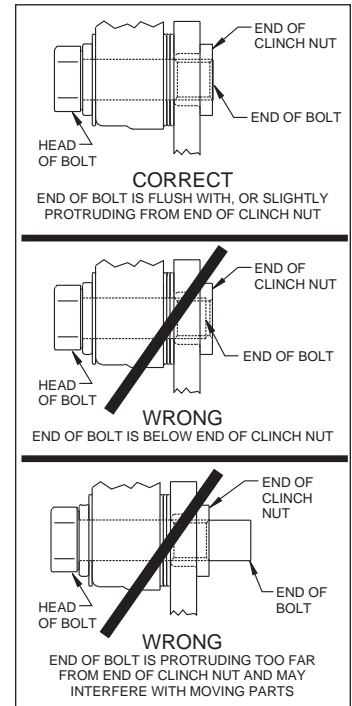

Figure 3. Clinch Nut Engagement Diagram
**Assembly Instructions** (numbers in parenthesis refer to the parts list, on the preceding page and Figure 1): **CAUTION:** All mounting bolts must fully engage clinch nuts. Be sure to check that all bolts are either flush or protruding through flanged side of clinch nut after shimming, Figure 3.
- Pack the small outer bearing cone (9) with high temperature disc brake bearing grease and install into hub (7). Slide the hub/rotor onto the spindle. Slide spindle spacer (10) onto the spindle and into the hub, Photo 4. Secure using spindle washer (11) and OEM spindle nut. Adjust bearings by tightening the wheel bearing nut to 60 **in-lbs.** while turning the hub/rotor assembly. Back off the adjusting nut one slot and install a new cotter pin (not supplied). **The resulting adjustment should be zero (no pre-load to 0.003 inch end play).**
- Install the o-ring (12) onto the dust cap (13). Press the dust cap into the hub (7).
- **NOTE:** Please reference the caution statement at the beginning of the assembly instructions. Mount the caliper (14) onto the caliper mounting bracket (1) using bolts (16) and washers (15), as shown in Figure 1. Initially place two .035" thick shims (17) on each bolt between the caliper and the bracket, Photo 5. Temporarily tighten the mounting bolts and view the rotor (7) through the top opening of the caliper. The rotor should be centered in the caliper, Photo 6. If not, adjust by adding or subtracting shims between the bracket and the caliper. Always use the same amount of shims on each of the two mounting bolts. **NOTE:** The end of each bolt must be flush with or slightly protruding from the head of the clinch nut, as shown in Figure 3. If necessary place spare shims between washer (15) and caliper mounting ear to achieve the proper clinch nut engagement. Once the caliper alignment and clinch nut engagement are correct, remove the bolts one at a time, apply red *Loctite*® 271 to bolt threads, and torque to 40 ft-lb.